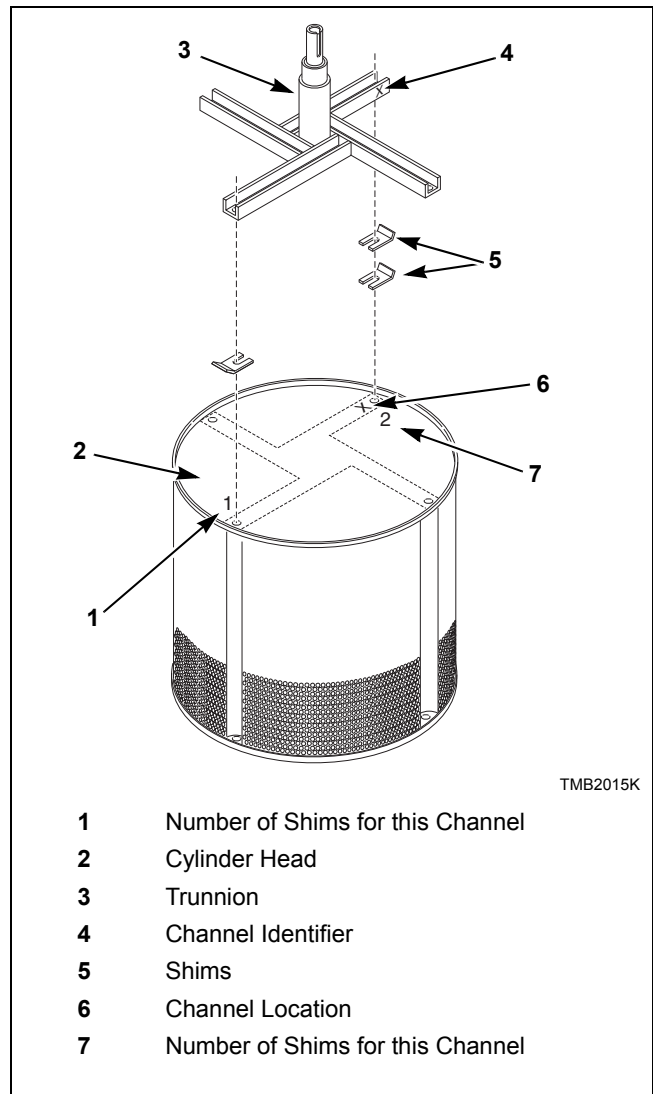

Figure 5
6. To ensure proper cylinder balance for reassembly, mark each channel's original location on cylinder head and number of shims for each channel before removal. Refer to *Figure 5*.